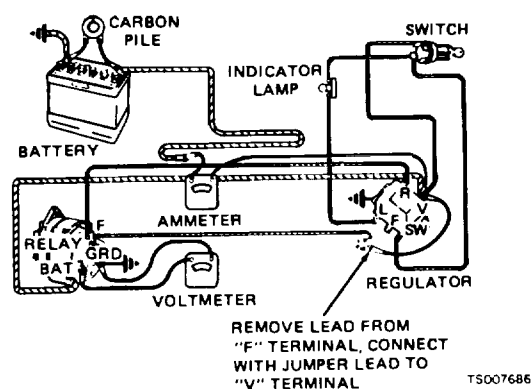

Figure 4-13. Alternator Output Test Setup
(1) To test alternator output, make meter connections as shown in figure 4-13. The carbon pile rheostat across the battery terminals provides an artificial load for the alternator to work against. Run engine up to governed speed and check alternator output. Output should be: 8 Amps @ 80°F.-500 Engine RPM; 31 Amps @ 80°F.-2200 Engine RPM.